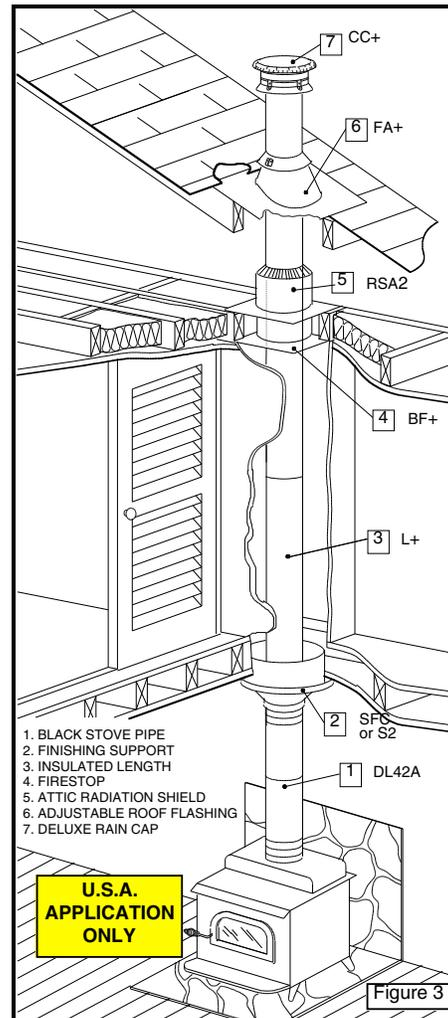

Figure 3
- 4 Put this first chimney length in the support. Turn it clockwise to lock it in place (see Fig. 3).